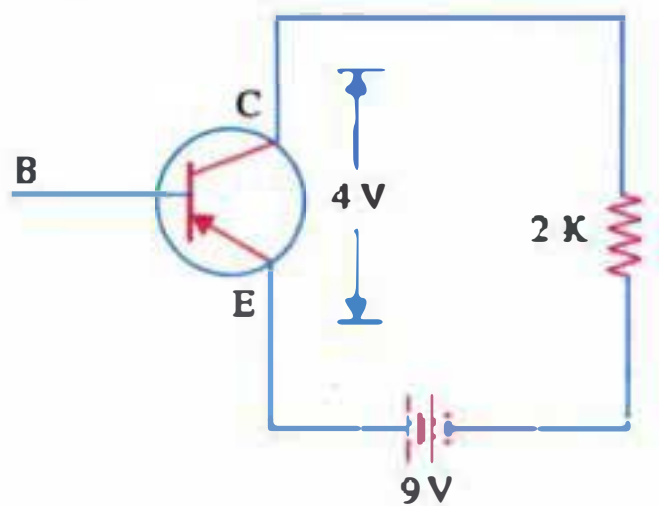

Fig. 1.23
6. The current flowing through the PNP transistor of Fig. 1.23 is